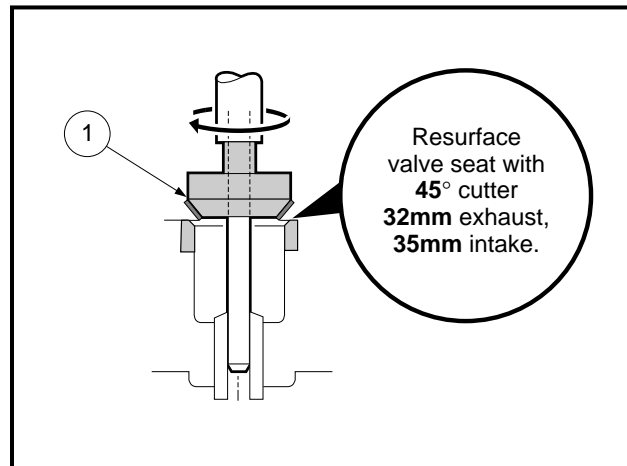

Figure 13-24 Recondition Valve Seat
- 2.4. Resurface the valve seat with a 45° cutter (1) (32mm Exhaust Valve Seat Cutter, Club Car Part No. 1016553, and 35mm Intake Valve Seat Cutter, Club Car Part No. 1016554), removing only enough material to produce a smooth and concentric seat (**Figure 13-24, Page 13-15**). **See following CAUTION.**
- 2.5. Use a 30° x 35mm seat cutter (1) (Club Car Part No. 1016554) to narrow the seat width to the standard width (**Figure 13-24, Page 13-15**). See following **CAUTION** and **NOTE**.
- 2.6. Turn the seat cutter (1) clockwise one turn at a time while pressing down very lightly. Recheck the width after each cutter revolution (**Figure 13-24, Page 13-15**). See following **CAUTION** and **NOTE**.